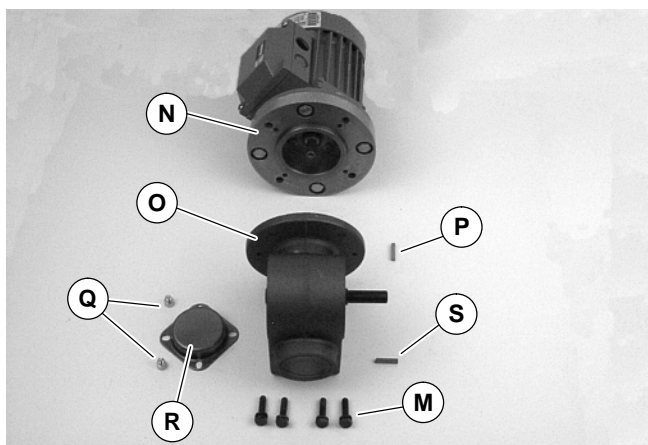

Figure 12
6. Remove four screws (M of Figure 12). Detach motor (N) from gear reducer (O). Retain motor output shaft key (P).
11. With key (P of Figure 12) in keyway, slide motor (N) and gear reducer (O) together. Install screws (M) and tighten.